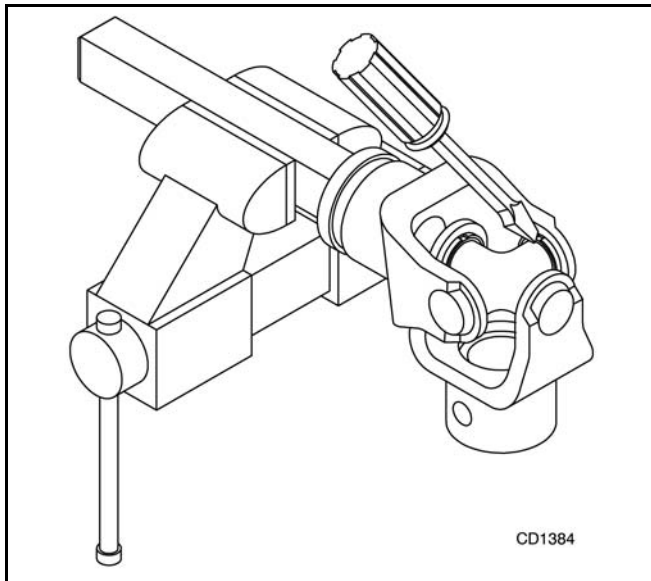

Figure 18.
1. Remove snap rings from inside or outside of yokes in four locations. (Figure 18 only shows the style with internal snap rings.)